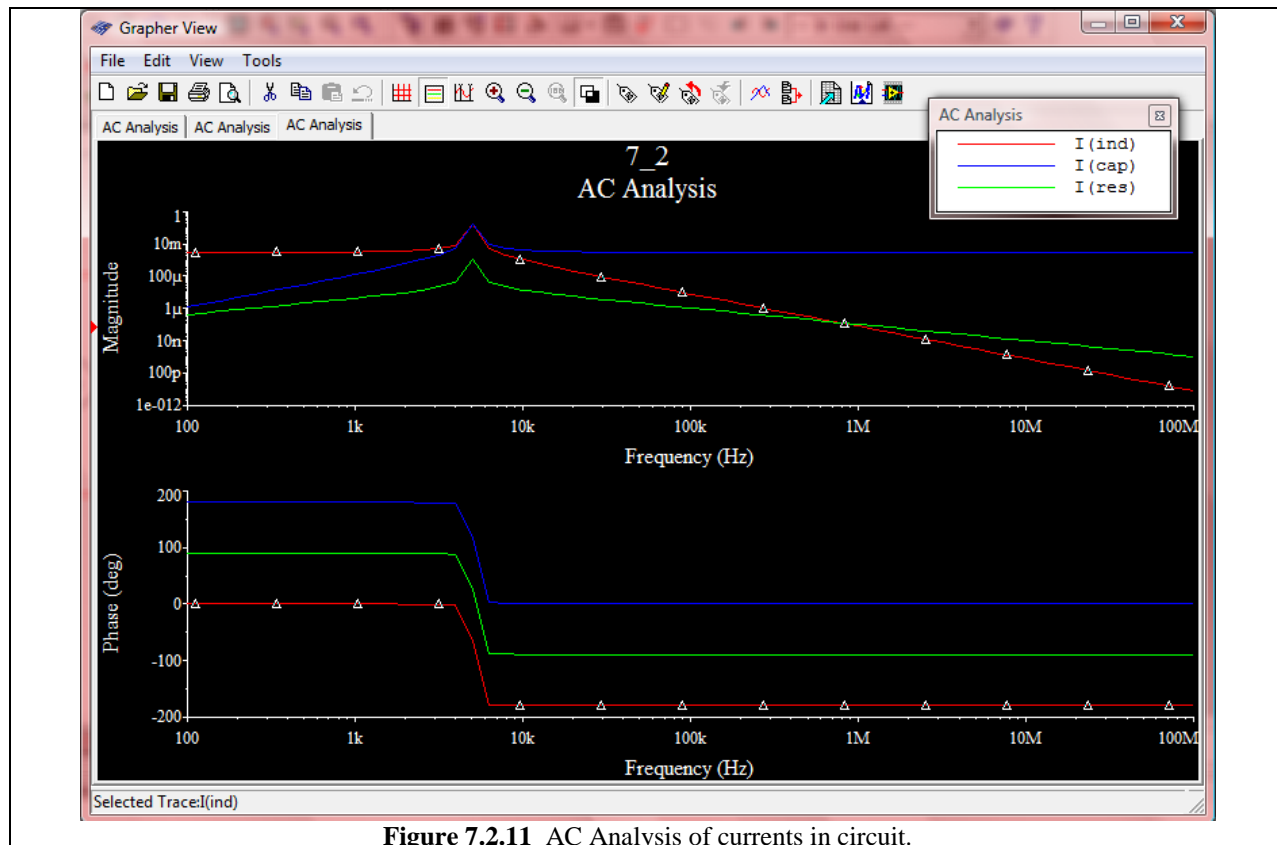

Figure 7.2.11 AC Analysis of currents in circuit.
Now when we get ready to re-run the AC Analysis in order to measure currents, replace the voltages V(1) and V(3) with the currents I(res), I(cap), and I(ind) as the variables selected for analysis. When you are ready, press Simulate. You will produce a plot similar to that shown in Fig. 7.2.11 on the next page.